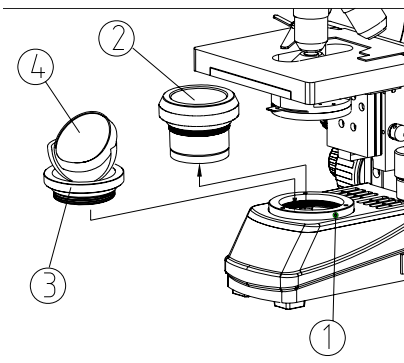

Fig. 8
2. Loosen the hexagon screw ① with the spanner, to screw off the built-in Koehler illuminator condenser ② (see Fig. 8).
3. Screw on the mirror ③ according to the arrowhead pointed, and tighten the hexagon screw ① with the spanner.
4. Rotate the mirror stand ④, to fill the field with light.